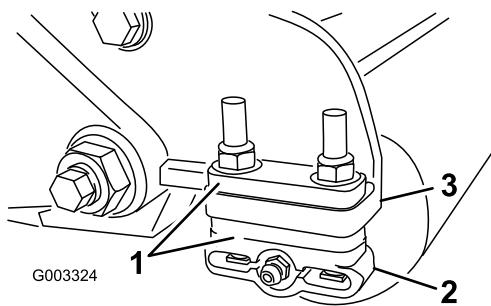

Figure 11
- Adjust the rear roller brackets (Figure 11) to the desired height of cut range by positioning the required amount of spacers below the side plate mounting flange (Figure 11) per the HOC Chart.